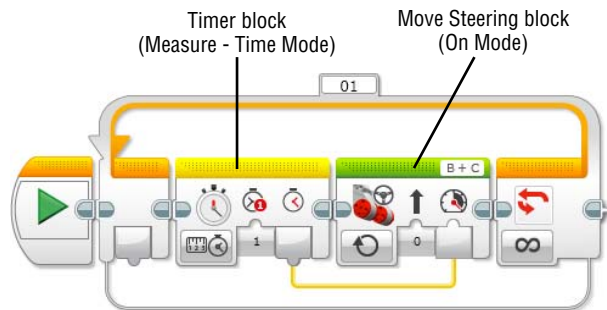

Figure 11-8: A program where the timer controls the power of motors B and C
- **Numeric data type:** This data type is composed of numbers. These numbers can be positive (greater than zero), negative numbers (less than zero) or zero. They also can have decimal values such as 2.8, 10.234, -4.56, and so on. Figure 11-8 shows an example of using this value type with the data wire. The value that the Timer block gets, which is a numeric value, can be wired to control the power of the motor. The Timer block will send out the amount of time that it measures, which increases as time goes by, to the